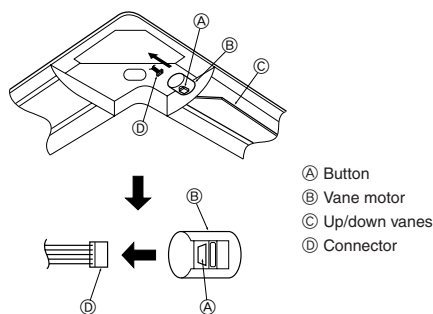

Fig. 5-9
5.5. Locking the up/down airflow direction (Fig. 5-9)